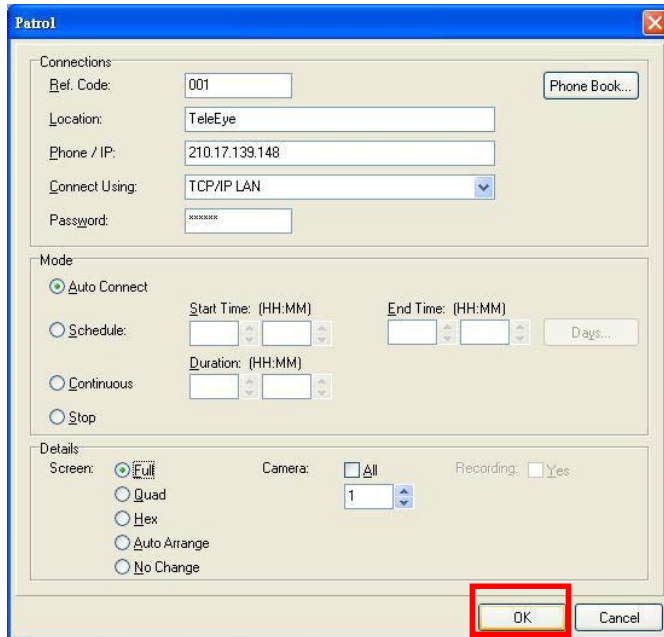

Fig 12.1d
Step 4 : For details part, user should select the display mode and cameras as shown on **Fig 12.1d**.